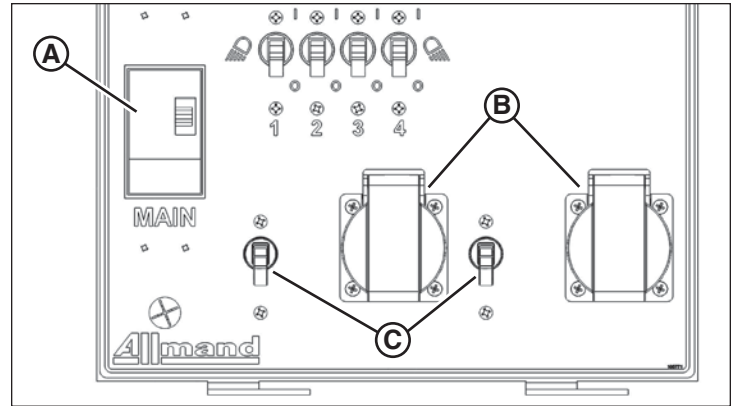

Figure 34
- Two Shucko outlets (B, Figure 34), each protected by a circuit breaker (C). (50Hz Models only)